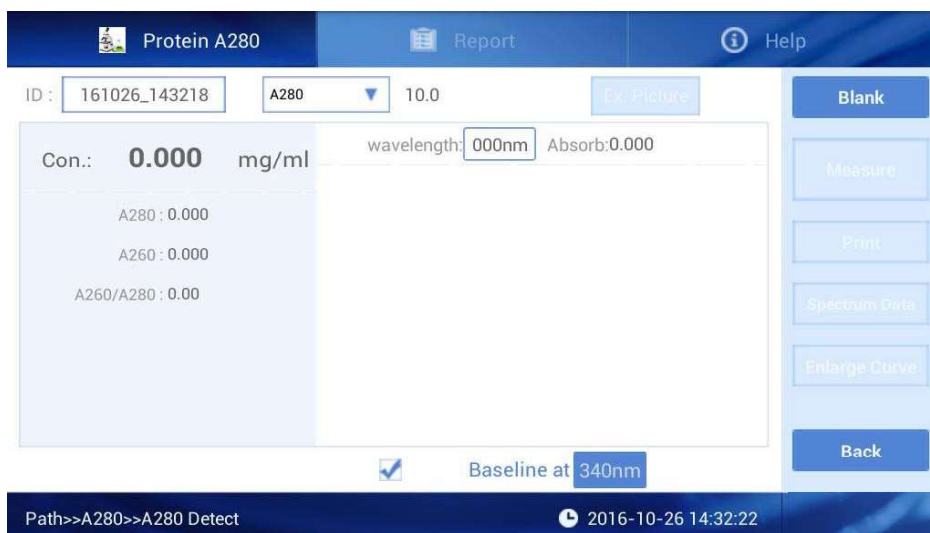

Fig 4.9 Protein detection interface
Click “Protein A280” enter the interface Fig4.9.
As Fig 4.9, there are three options at the top of the screen, Protein A280, Report, Help.
- 1) Interface Fig 4.9, only the light blue area is clickable.
① **ID : 161026_143218** : The sample batch No., default value is the current time, users can also edit ID by themselves. One ID can include as many as 1000 detection results.
② **A280** : Click to choose Nucleic Acids type, when you choose “others” and type in the NucleicAcids factor the instrument will calculate as you set.
③ **Blank** : Blank the buffer, this step is essential before measurement.